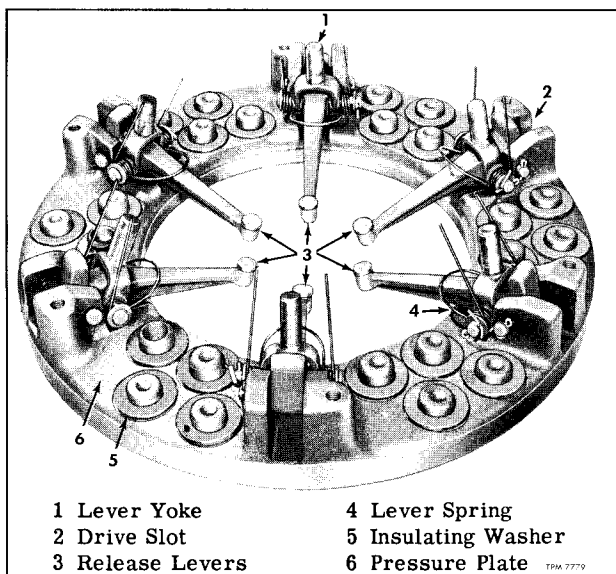
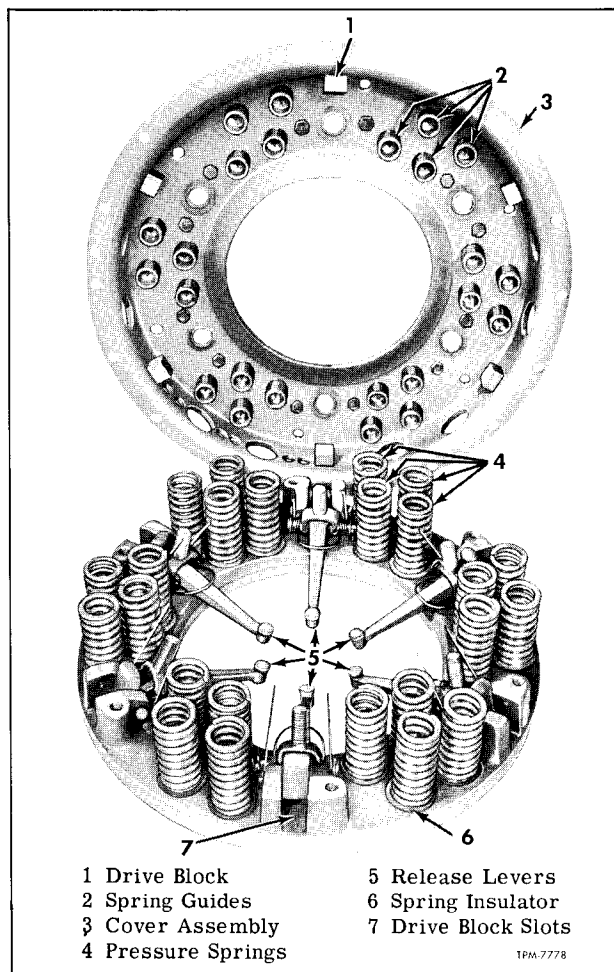

Figure 17—Pressure Plate and Release Levers
Figure 18—Springs and Levers in Position For Installing Cover Assembly
1. Assemble adjusting yokes (30) and springs (27) on clutch release levers as follows:
b. Lay lever (32) on flat surface and insert a pilot pin in each hole. Arrange full complement of rollers (31) around each pilot pin. Do not lubricate bearing rollers. Place yoke (30) and spring (27) over lever in position shown in figure 17. Place
c. Position lever and yoke assembly at pressure plate (9), then install lever pin (33) and retain with cotter pin.
d. Repeat procedure described in steps b. and c. above to assemble each lever to pressure plate. Refer to figure 17 for view of release levers installed on pressure plate.
2. Place pressure plate and levers assembly (fig. 17) face downward on bench. If the pressure plate, center plate, or flywheel plate have been resurfaced, place 1/32" shims between insulating washers (28) and spring bosses on pressure plate. Use one shim for each 1/32" of material removed during resurfacing operations. Refer to figure 18 for proper position of springs on pressure plate.
3. When insulating washers (10) and springs (11) are in position, set cover (12) over springs